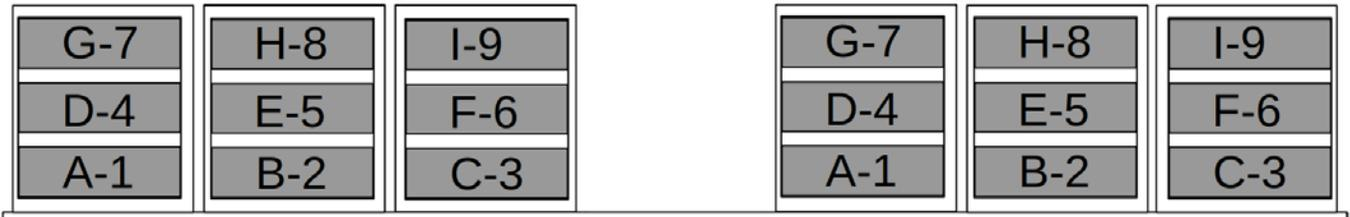

Figure 7 - Front view of the shelf compartments numbered A (1) to I (9).
The upper region, adjacent to the external boundary of the arena, has 2 sets of 3 aligned shelves, one set between the first and the third square, and other set between the fifth and seventh square. The shelves are arranged next to each other and together they have 9 compartments for each set. The compartments are identified between 1(A) and 9(I). The compartment in the lower left corner has a value of 1(A), the second in the lower left corner has a value of 2(B), the highest compartment on the right has a value of 9(I), (Figure 7).